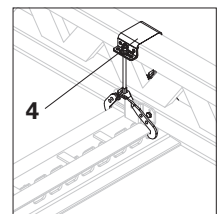

Fig. A1.03b
3. Position edge beam against the steel waler and secure. (Fig. A1.03) Mounting takes place using Girder Claw and hex. wood screws M8 x 60 (Fig. A1.03a) or Hook Strap HBU (4) and Torx TSS. (Fig. A1.03b)